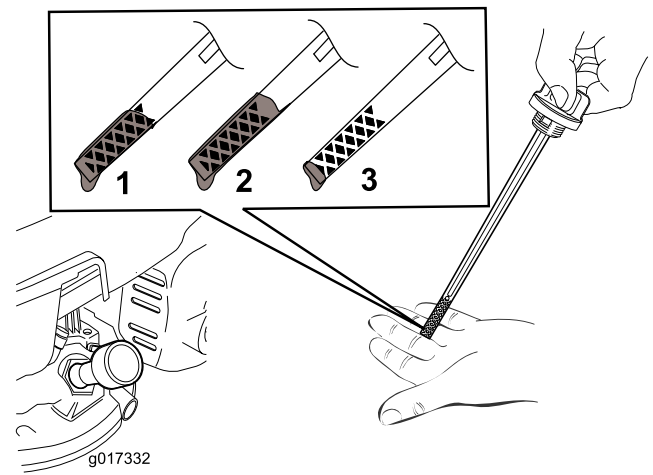

Figure 6
Note: Fill the engine crankcase with oil until the dipstick indicates that the engine oil level is correct as shown in Figure 6. If you overfill the engine with oil, remove the excess oil as directed in Changing the Engine Oil \(page 14\).
2. Remove the dipstick (Figure 6).